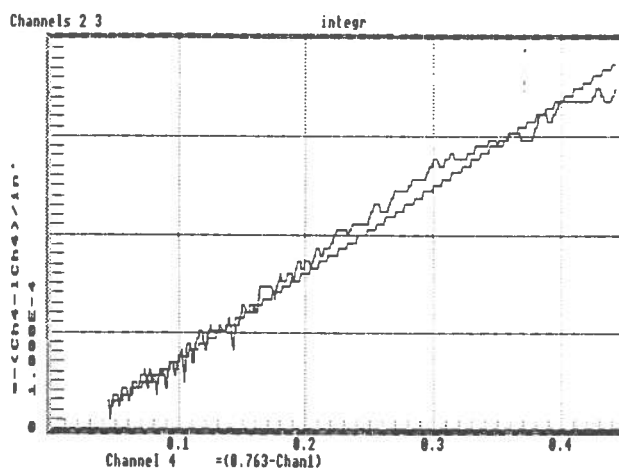

Fig.10  $-d(V_\infty - V_t)/dt$  vs.  $(V_\infty - V_t)$
6. X-Y plot rate vs.  $(V_\infty - V_t)$  (Fig.10)
7. plot best-fit straight line & gradient is rate constant  $k$  (Fig.10)
where  $x$  represents the variable of the channel holding the  $(V_\infty - V_t)$  data. Remember  $lx$  is the value of the data previous to the present point and  $in$  is the time interval between consecutive data points. The resulting data was X-Y plotted against  $(V_\infty - V_t)$  to give Fig.10. The gradient of this line can be read directly as  $k$ , the specific rate constant. Using the *Least squares fit* procedure from the *Mathematical Utilities Menu*, the slope was calculated to be  $8.84 \times 10^{-4} \text{ s}^{-1}$ . This corresponds well with the value obtained by Analysis 1.